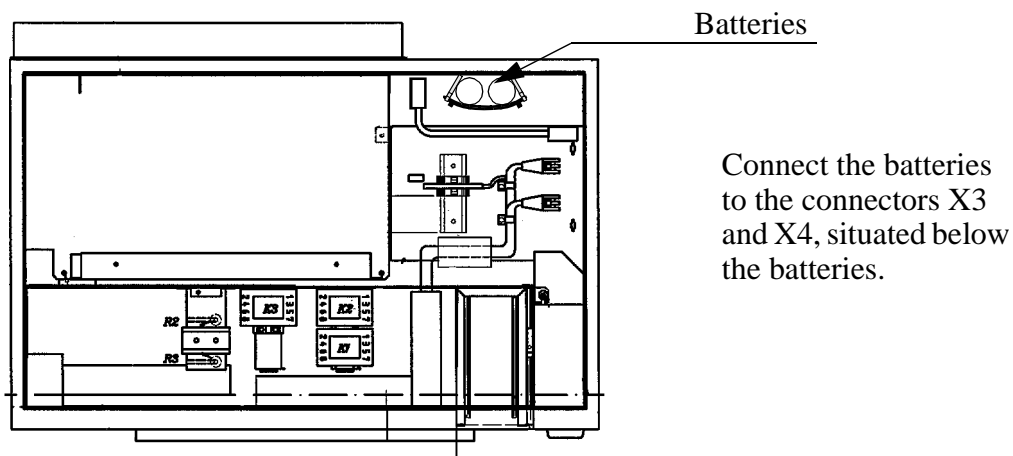

Figure 19 Location of batteries, view from above.
- Connect the batteries for memory backup (see Figure 19).